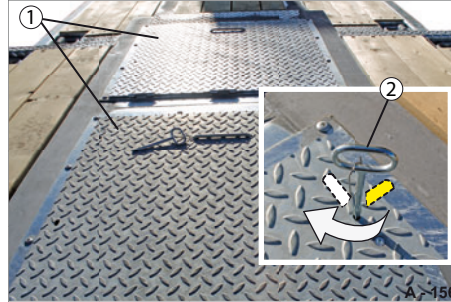

Fig. 74 Lid closed, locked
- Stick the square-bolt socket wrench (Fig. 74/2) into the perforation and turn it around.
- Lock the lid on both sides (Fig. 74/1).